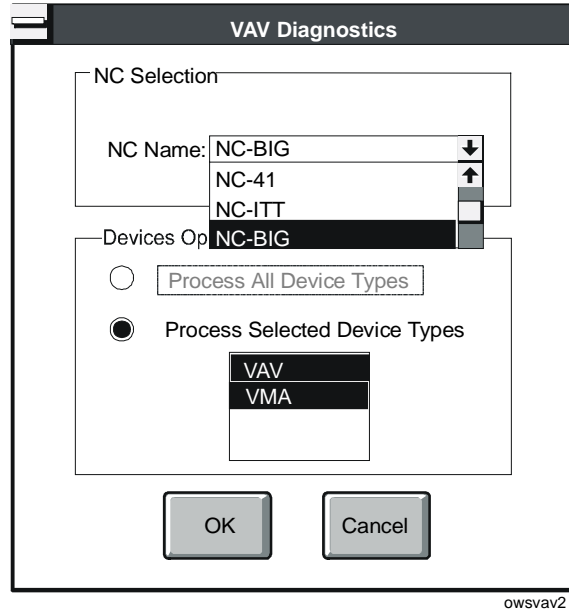

Figure 16-22: Collect VAV Diagnostics Dialog Window
1. On the Action menu, click Collect VAV Diagnostics. The VAV Diagnostics dialog box appears (Figure 16-22).